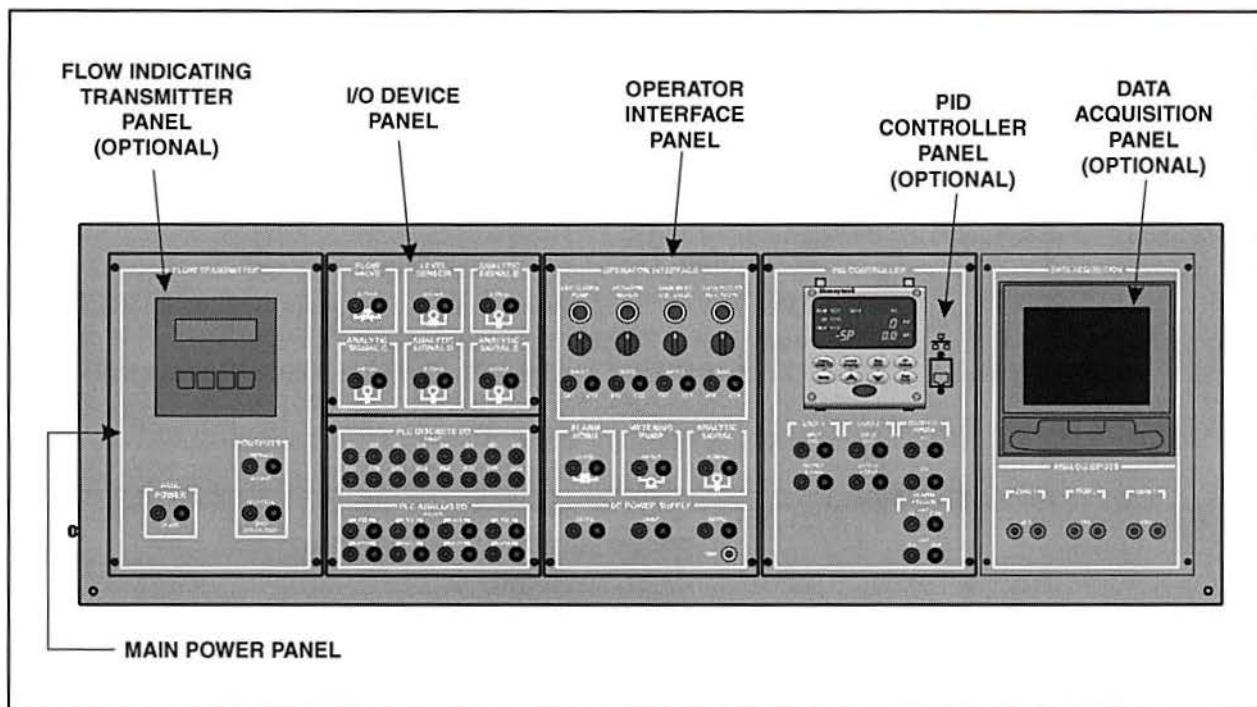

Figure 23. Control Panel Components
- 3. Perform the following substeps to locate the components of the T5554 control panel, shown in figure 23.
- Locate the **Flow Indicating Transmitter Panel (optional)**, identified in figure 23, if present.
- Locate the **I/O Device Panel**, identified in figure 23.
D. Locate the **PID Controller Panel (optional)**, identified in figure 23.
E. Locate the **Data Acquisition Panel (optional)**, identified in figure 23.